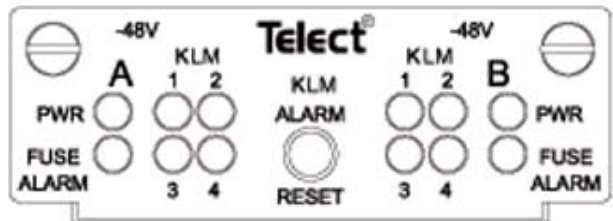

Figure 5 - Alarm Indicators
- **PWR A** LED on the front panel must light up (green). (See Figure 5 for location.)